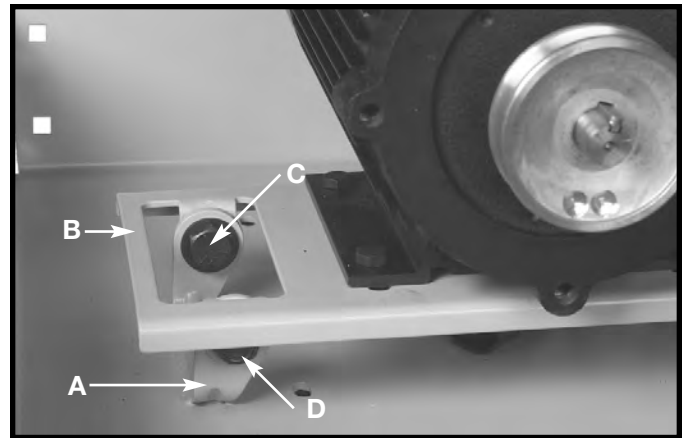

Fig. 7
1. Locate the welded bracket (A) Fig. 7 underneath the top shelf of the stand.
2. Place the motor attachment bracket (B), so that the holes in the attachment bracket align with the holes in the welded bracket (A).
3. Insert the hex head bolts - one of which is shown at (C) - and flat washers, in the holes from the inside out.
4. Using an $\frac{1}{16}$ " open end wrench, tighten the locknuts - one of which is shown at (D) - on the hex head bolts. Hold the hex head bolts with an $\frac{1}{16}$ " socket as you tighten.